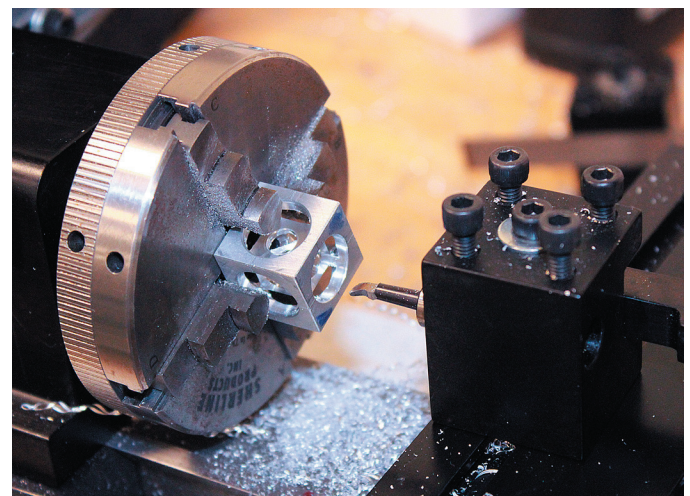
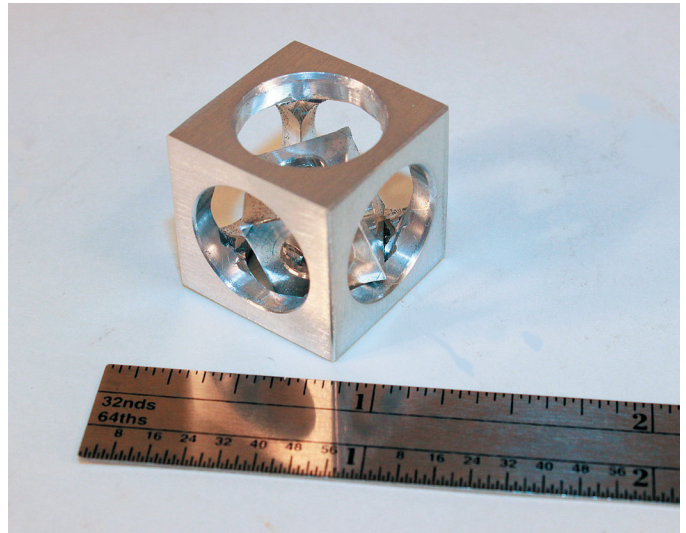

Figure 6—The special undercut boring tool P/N T3061 is used to release the inside cubes.
*Figure 7—The tip of the P/N T3061 boring tool is shaped to undercut the final bore diameter to release the inner cubes.*
4. Finish face and undercut five of the six sides of the .209" cube. For this operation you will be using the hand ground "undercut tool" that was made from the second 3061 Boring Tool (See Fig. 7.) Undercut to .335" diameter at .270" deep. At the .270" depth, you will be taking a .003" finish pass on the face of each side of the cube. **IMPORTANT! Do not undercut all six sides!** I suggest marking one side with a magic marker so you will know which one to leave for last. (See Figure 6.)